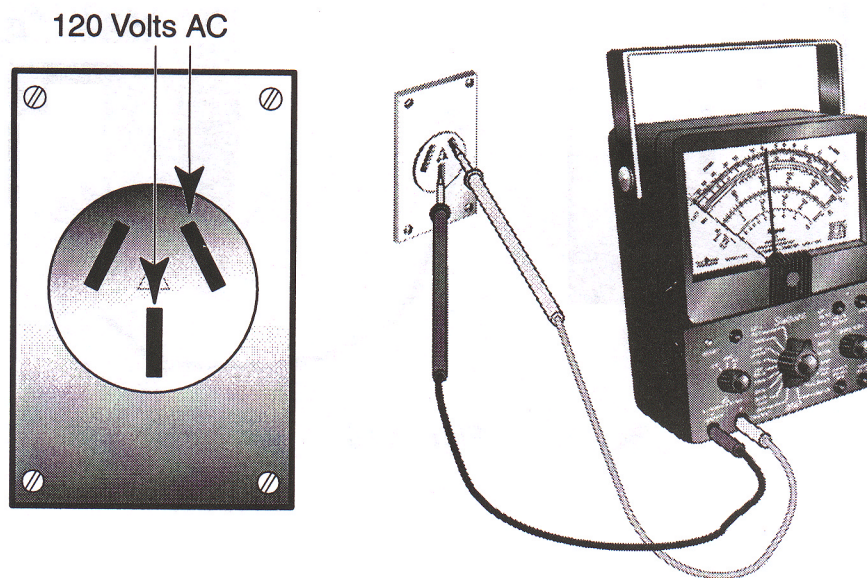

Figure 20
6. Touch the meter probe tips to the indicated outlet openings (see Figure 20). The meter should measure approximately 120 volts AC.